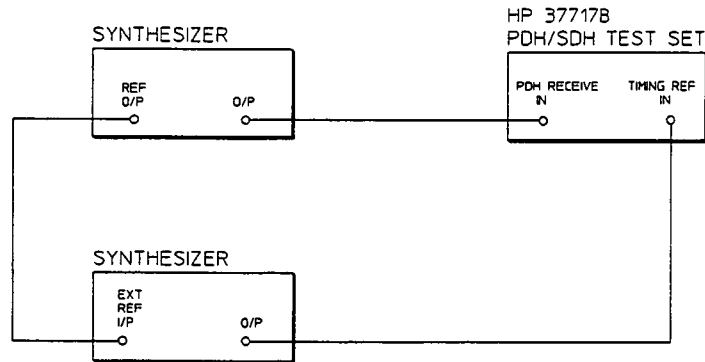

Figure 3-48. Slips and Wander Test Setup
13. Connect up the equipment as shown in Figure 3-48.